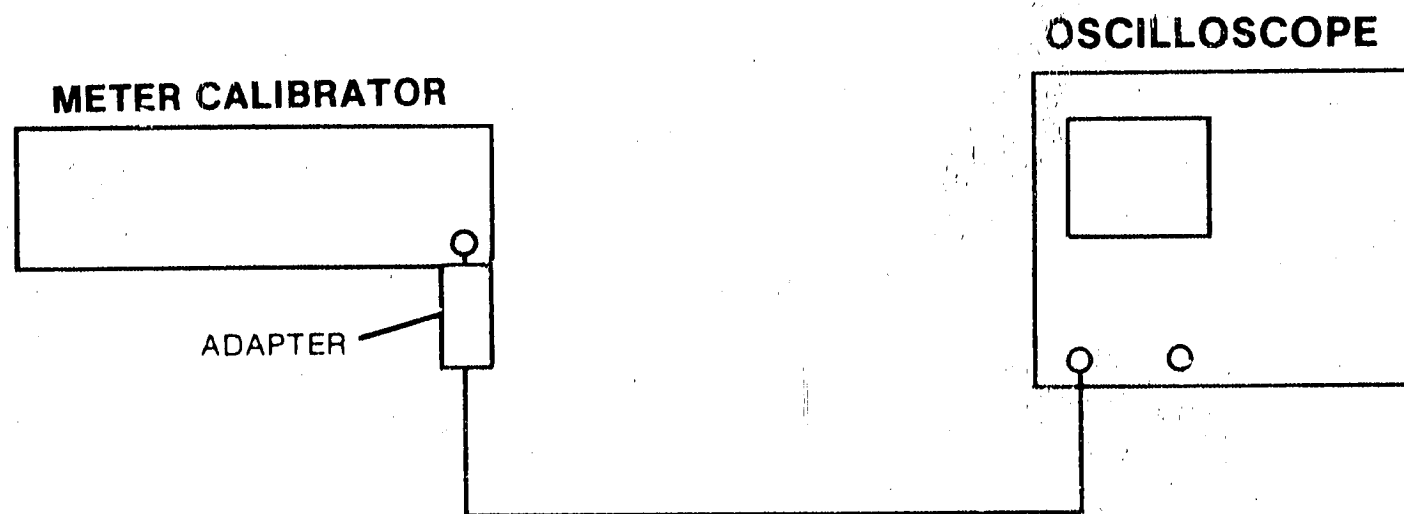

Figure 4-10. Deflection Factor Test Setup
- a. Connect equipment as shown in figure 4-10.